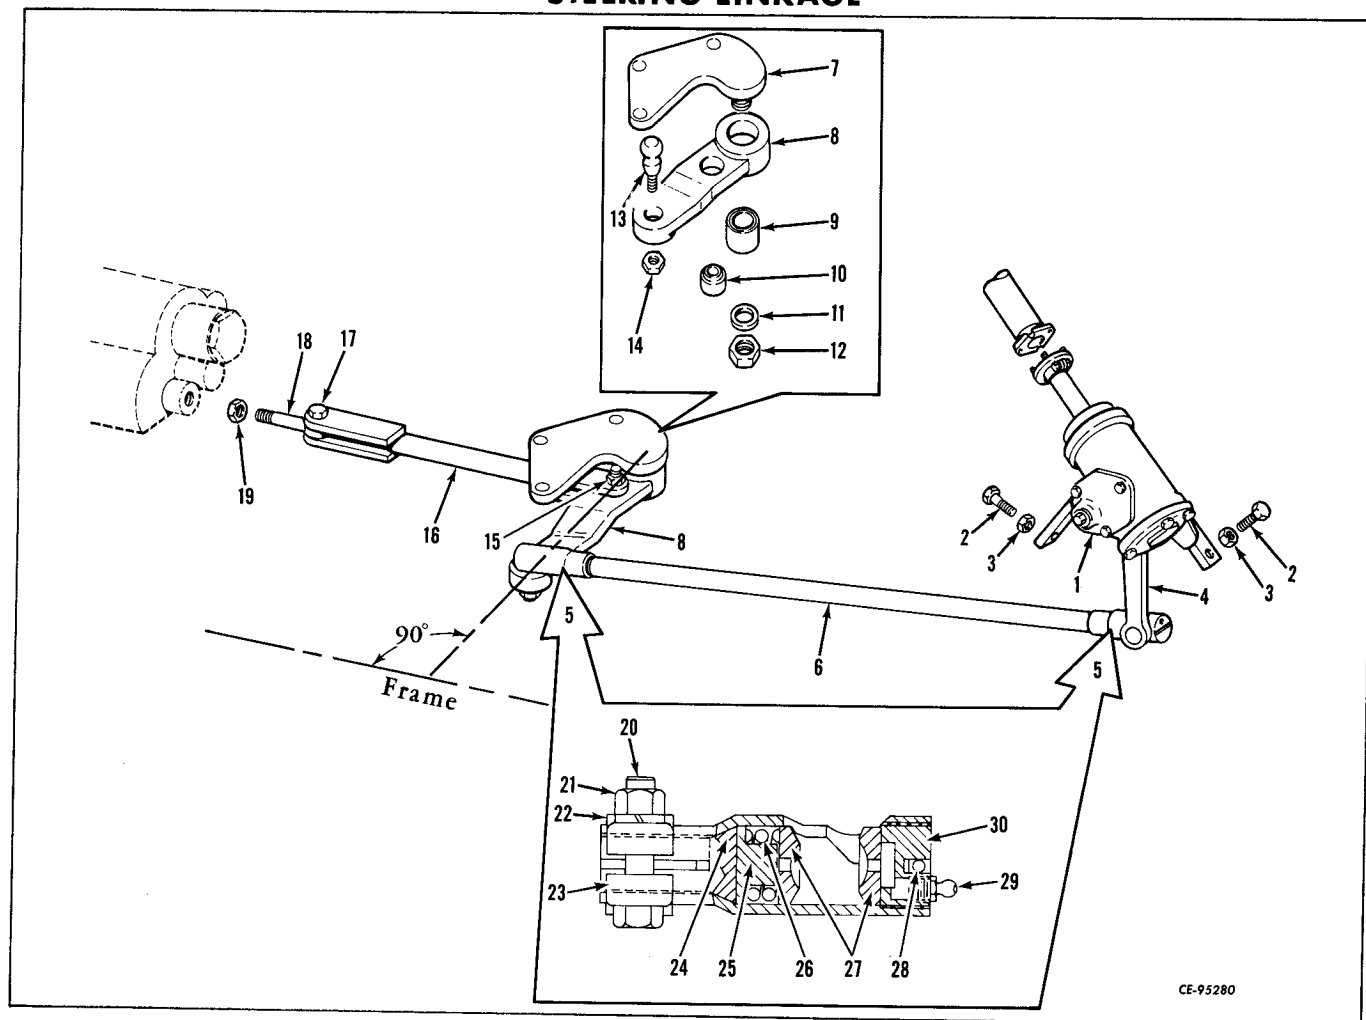

Figure 9-15
Remove drag link (6, Fig. 9-15) from the Pitman arm (4) and pivot lever (8) by disassembling rod ends (5).
Install ball stud (13, Fig. 9-15) into pivot lever (8) and install and tighten nut (14). If bearings (9 or 10) have been removed, press new bearings into pivot lever (8). Position lever (8) on pivot plate (7) and install flat washer (11), nut (12) and tighten.